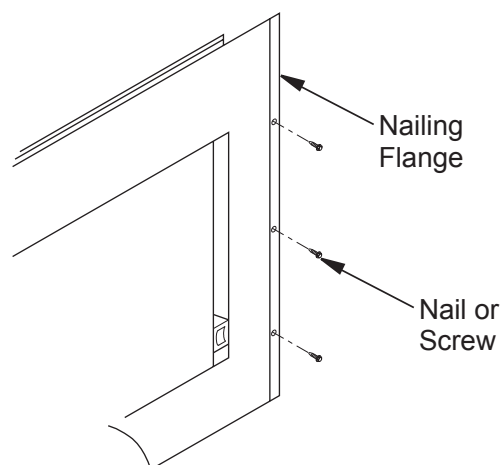

Figure 4 - Nailing Flanges
6. Using screws or nails, secure fireplace to framing through flanges located on sides of fireplace (see Figure 4).